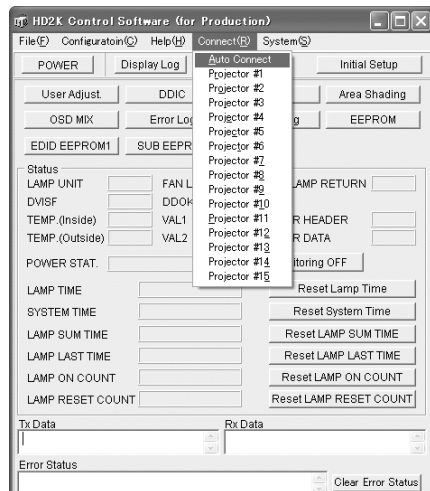

Fig.1
- (1) Connect the PC and Projector, PC and CL200 with RS-232C cables and then turn the Projector ON.
- (2) Boot the SPA software.
- (3) Click [Connect] on the Menu Bar and select [Auto Connect] in the pull-down menu. Refer to Fig.1.